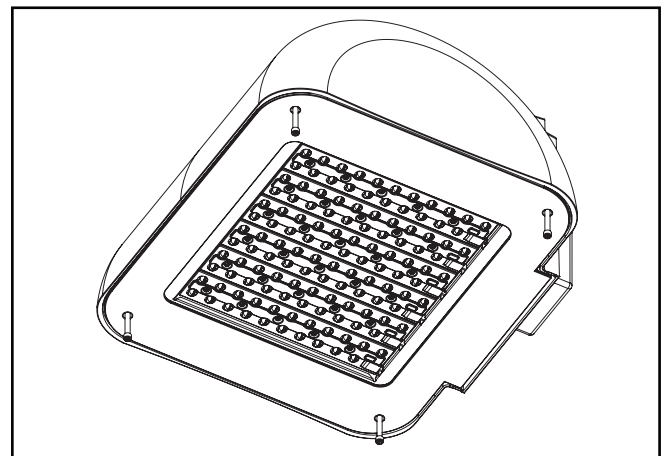

Figure 7.
5. Loosen the four 1/4-20 captive socket head cap screws and open the door. (Figure 7.)